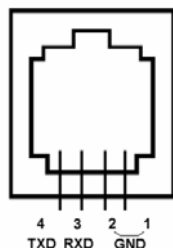

Figure 4. Serial port pin out on an 8407 hand controller
- Serial port: connect the HC to a Computer via a RS232 to 4-wire RJ-9 cable. The pin out of the serial port is shown in Figure 4.